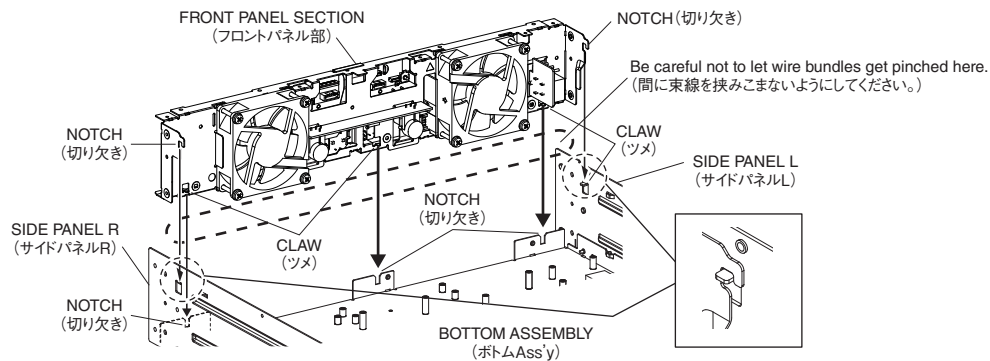

Fig. 7 (図7)
- \* **When installing the front panel section, fit the claws of side panels (L/R) into the notches of front panel section, fit the claw of front panel section into the notch of bottom assembly. (Fig. 7)**
- ※ フロントパネル部を取り付ける際は、切り欠きをサイドパネル(L/R)のツメに挿し込み、ツメをボトムAss'yの切り欠きに挿し込みます。(図7)